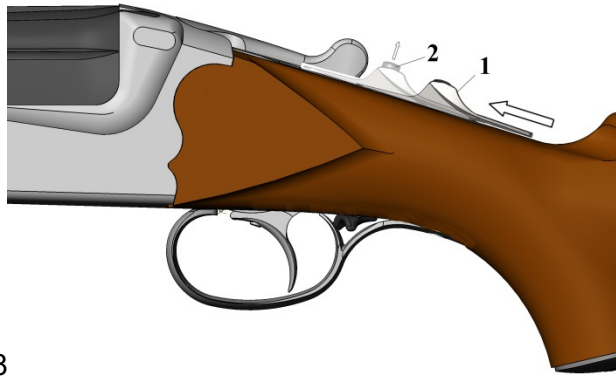

Figure 8
If you own a version with a hand-cocking system, the locks are cocked immediately before firing a shot by pushing the cocking lever (1) into front position until the locking button (2) stands out of cocking lever and holds the latter in its position (Figure 8).